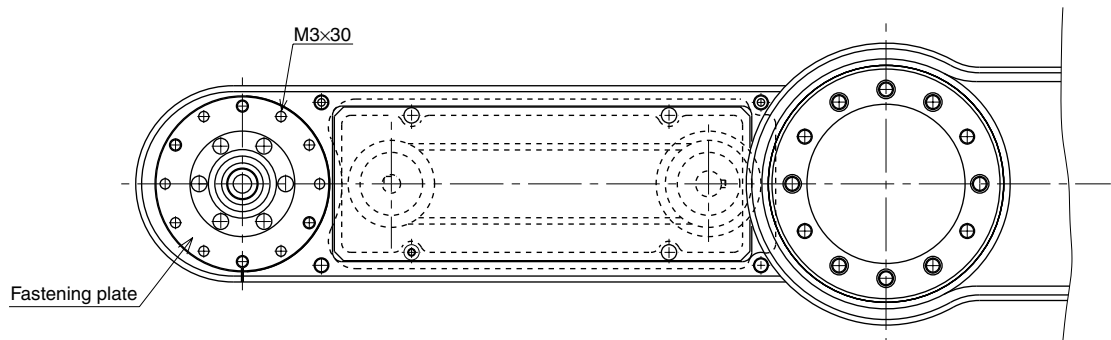
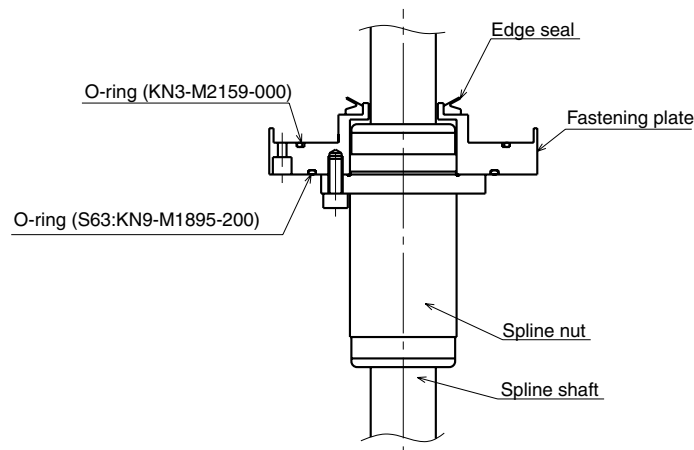

Fig. 5-48
Fig. 5-52
(See Fig. 5-48)
- 19) Fit a new O-ring into the O-ring groove on the fastening plate and also replace the edge seal with new one. Then secure the fastening plate to the harmonic drive with the bolts (M3×30L, 8 pieces) you removed earlier. (See Fig. 5-48 and Fig. 5-52.)